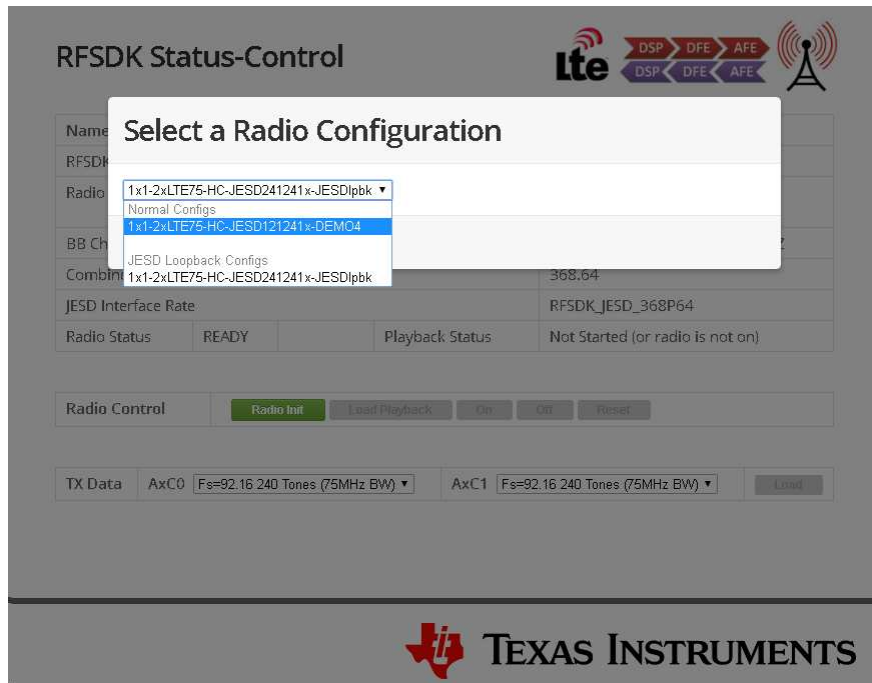
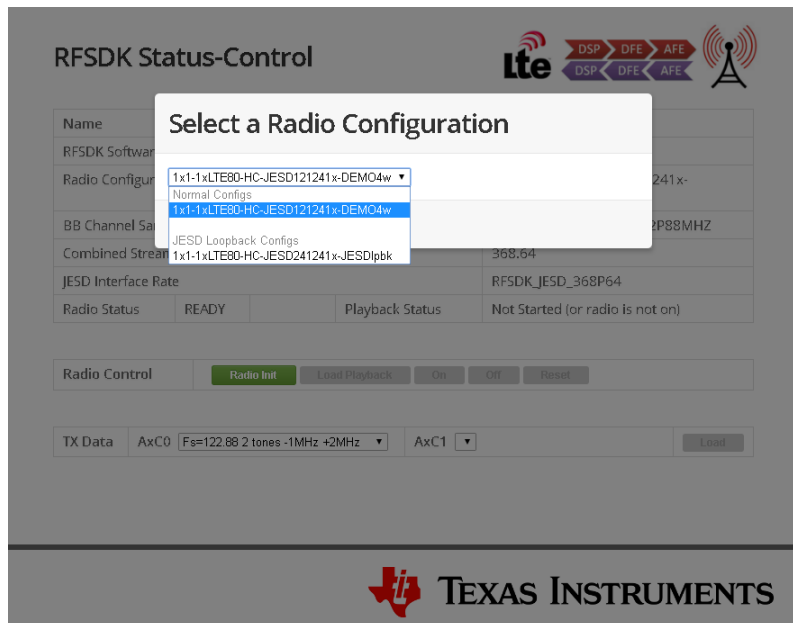

Figure 22. Radio Configuration Selection - Midband Demo
Figure 23. Radio Configuration Selection – Wideband Demo
6. Press the Select button once the reset is complete to open up the Radio Configuration Dialog, as shown in Figure 22 and Figure 23.